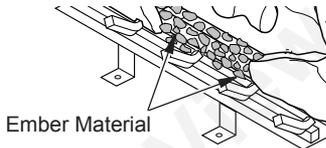

Figure 46 - Placing Ember Material on Burner
8. Pull ember material apart into pieces no larger than a dime. Place these pieces loosely and sparingly directly onto exposed section of front burner and along space between burner and grate prongs (see Figure 46, page 26). This will create glowing ember appearance as flame touches ember material. Do not block air slots by using too much ember material in one area. It is not necessary to use all of ember material provided.